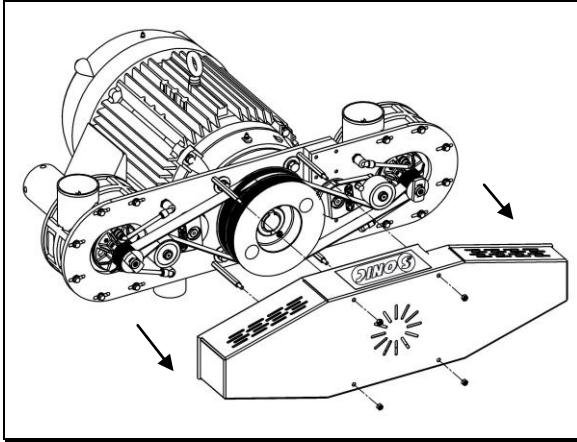

Figure 23 - Remove Belt Guard
1. Remove the belt guard using the ½ inch box-end wrench. (See Figure 23)